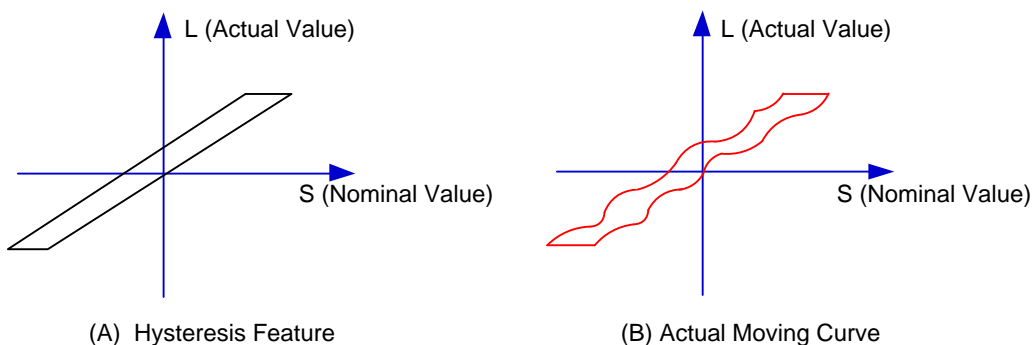

Fig. 3-48 Analysis of Backlash
Hysteresis feature is caused by forward and reverse clearance. Assume that driving shaft drives driven shaft in negative (CW) rotation, servo motor will be idling without moving worktable because of mechanical driving chain backlash, when the driving shaft suddenly begins CCW rotation (positive motion). After staying at a certain position for some time, the worktable will move backward with the driving shaft; when the direction of the driving shaft changes again, the situation is the same, which is called Hysteresis. If pitch error doesn't exist, under ideal condition, the moving curve of worktable is shown in Fig. 3-48(A), in which the curve of horizontal section is during the idling of servo motor without worktable movement. The actual moving curve of worktable is shown in Fig. 3-48(B).